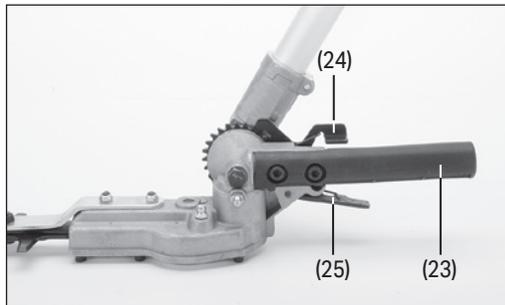

Fig.13
8.1 Adjusting the Blade Angle (Fig. 13)